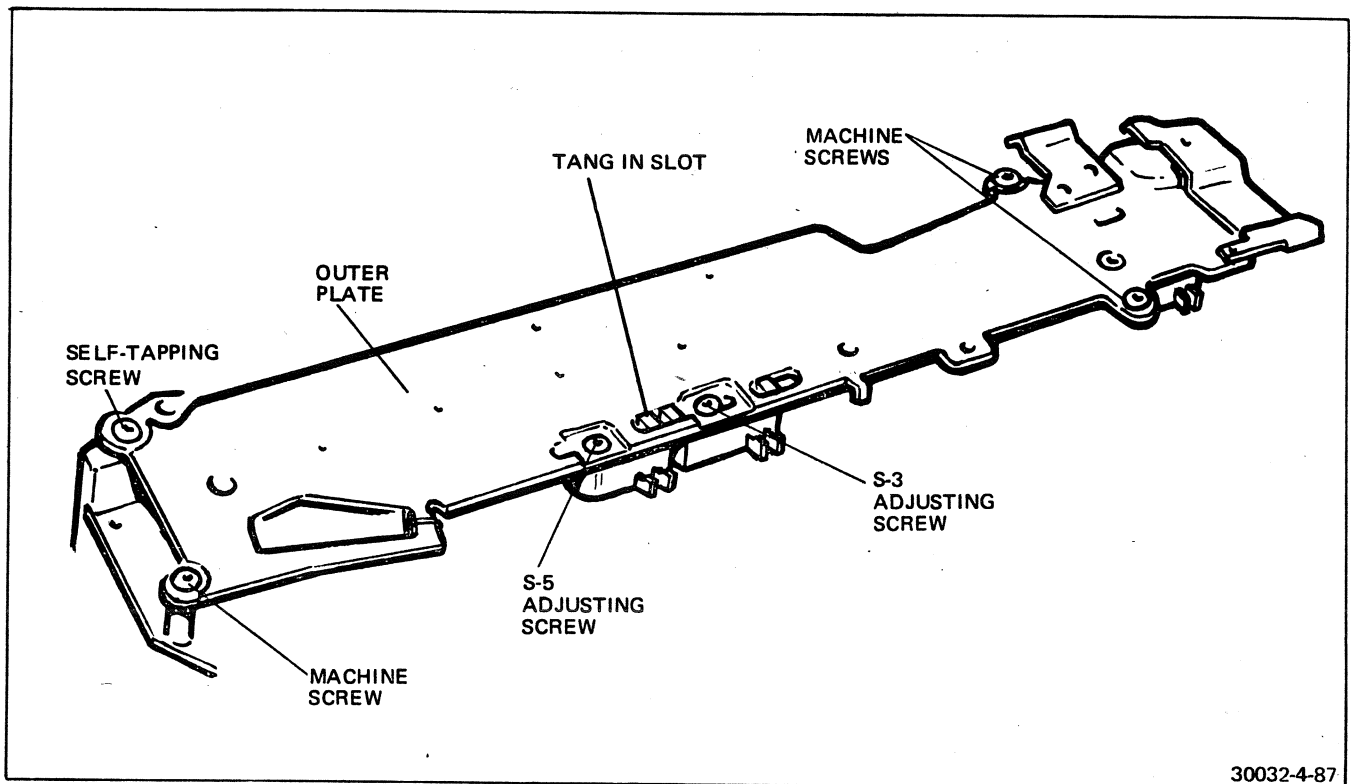

FIGURE 4-87 S5 ADJUSTING SCREW
- d. Remove the S5 adjusting screw. Note that a tang on the switch body rides in a slot in the outerplate to prevent S5 from rotating (Figure 4-87).
- h. To install the replacement switch refer to Figure 4-87. Insert the switch in such a position